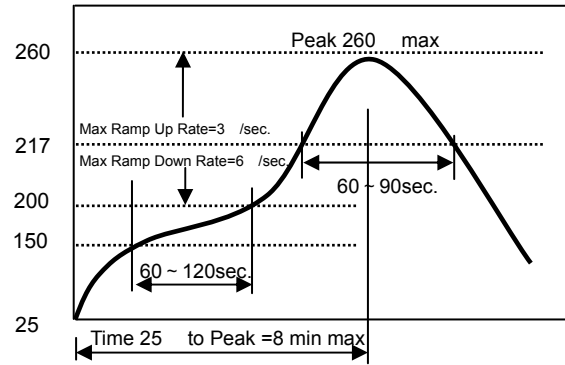

Fig. 11.1-1.
- Please refer to Fig. 11.1-1.